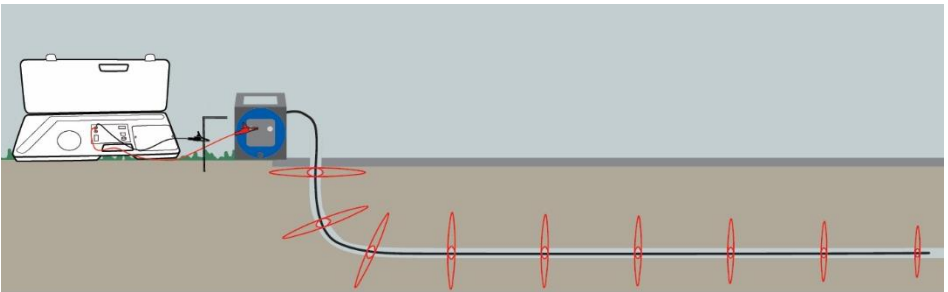

Figure 1
2. Using the transmitter of your wire locator, connect the red alligator clip to the red knob on the Pro65™ plastic pipe tracer. Connect the black alligator clip to the ground stake included with your wire tracker. See Figure 1 below.